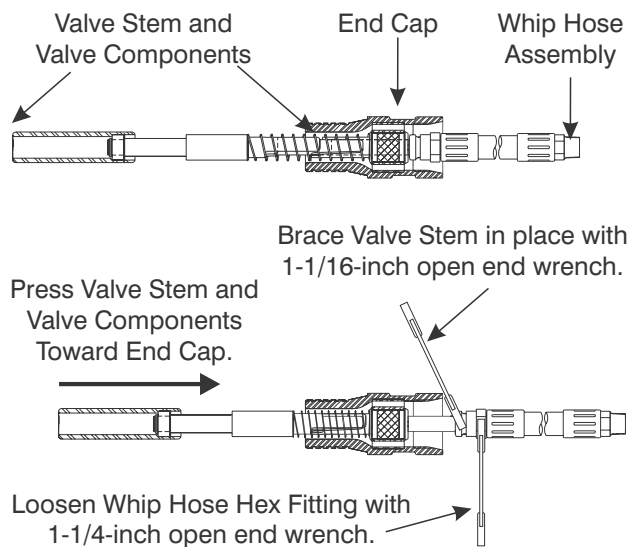

Figure 8-19. Press Valve Stem into Position
2. By hand, press the Valve end of the Valve Stem (5) toward the End Cap until the flats of the Thread Adapter (3) are accessible as shown in Figure 8-19.